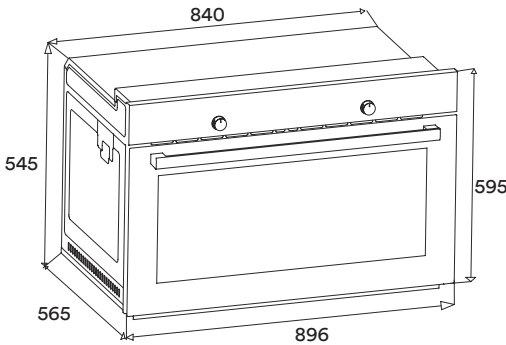

Figure 2
- Product dimensions are provided in the Figure 2.